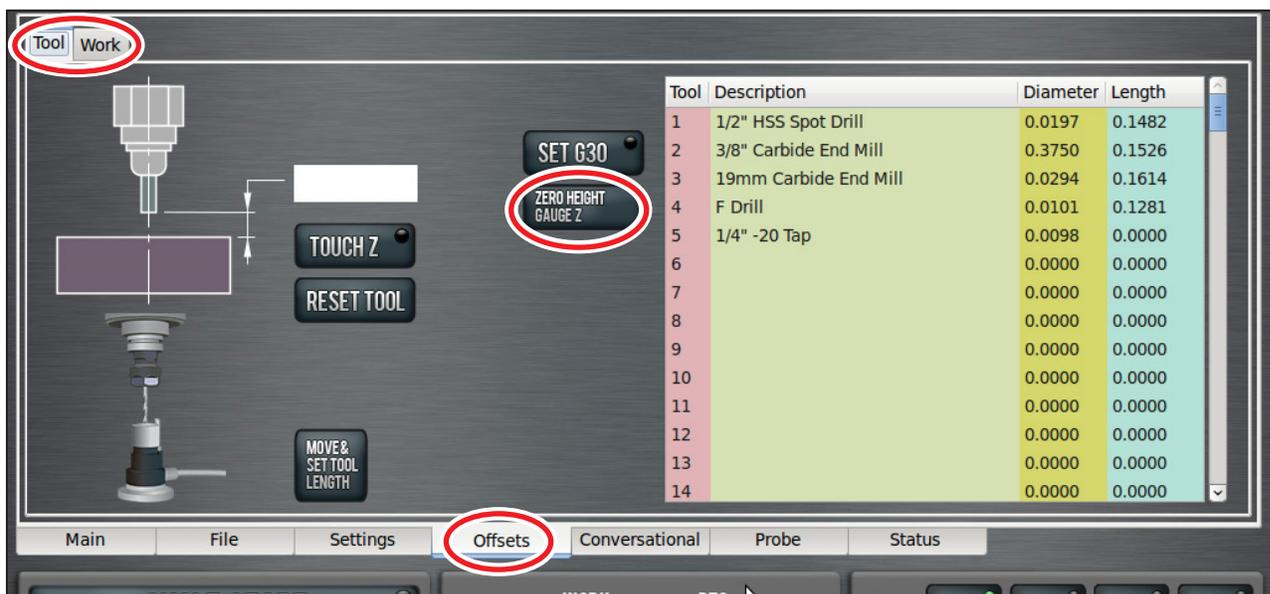

Figure 6.18
The *Offsets* tab reveals two sub tabs, *Tool* and *Work* (see **Figure 6.18**).
The *Tool* tab displays the tool table on the right and provides buttons for touching off tools on the left (see **Figure 6.18**). If you have read and followed the steps outlined in chapter 5, *Intro to PathPilot*, you will be familiar with many of the controls on the *Tool* tab.
**Setup:** The Tormach Tool Assistant Set (PN 31988) includes an 8" digital height gauge and a USB interface cable with touch trigger (see **Figure 6.19**). When this device is plugged into one of the controller's USB ports, the *Zero Height Gauge* button appears on the *Offsets* screen (see **Figure 6.18**).
Move the height gauge to the granite block, zero it using the *Zero* button on the gauge, then zero the PathPilot interface using the *Zero Height Gauge* button on the *Offsets* screen. To measure tool height, first mount the tool in a TTS tool holder and place the tool holder on a block as shown in **Figure 6.19**. Prior to taking measurements, zero the height gauge using the physical button on the gauge and zero the USB interface using the *Zero Height Gauge Z* button on the *Offsets* tab when the gauge is resting on the top surface of the block. The tool height measurement will be the distance from the surface to the end of the tool. Click on the appropriate line in the tool table to highlight it (see **Figure 6.18**). Press button on the height gauge USB cable to transfer measurement information to the height field in the tool table.
The *Offsets Table* on the *Offsets* screen (see **Figure 6.18**) displays an editable table of tool offsets (both geometry offsets and wear offsets) as well as a read-only table of work offsets. To alter a value in the tool Offsets table, mouse-click twice on the field that you'd like to edit. When you finish entering the desired new value, click *Enter* key on the keyboard to accept the value. The mill must be powered on and not in Reset mode to edit these fields.
The *Work* tab (see **Figure 6.18**) displays a read-only table of work offsets. The active work offset is highlighted in this table.